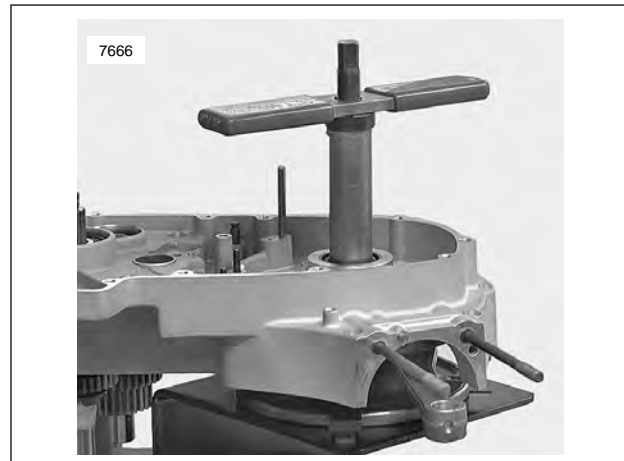

Figure 3-132. Installing Flywheel Spacer and Outer Bearing
9. See Figure 3-132. Install shim and outer bearing.